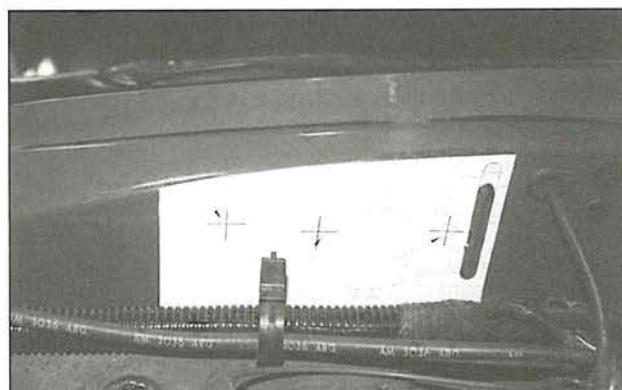

Fig. 6
- Orient the template on the plenum, using the guidelines indicated on the template: for '89-'93 vehicles, place the template so that the cutout area fits over the bump on the plenum (refer to Figure 6). For '94 and later model years, place the template so that the upper part of the template fits against the corresponding contour of the plenum.